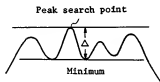

Fig. 5-2 Ripple level
- ⑥ Attenuation measurement
- ⑥-1 If the vertical scale was expanded through the above measurement, to 1 dB/div. for example, return it to 10 dB/div. Press   (returns to 10 dB/div.)
- ⑥-2 If the insertion loss of the DUT is too great, the measuring dynamic range is reduced accordingly. To maintain the dynamic range, use a preamplifier at the input of the analyzer. (See Figure 5-2.) Whether the preamplifier is to be inserted in the input or output of the DUT will depend on the condition of the DUT itself.